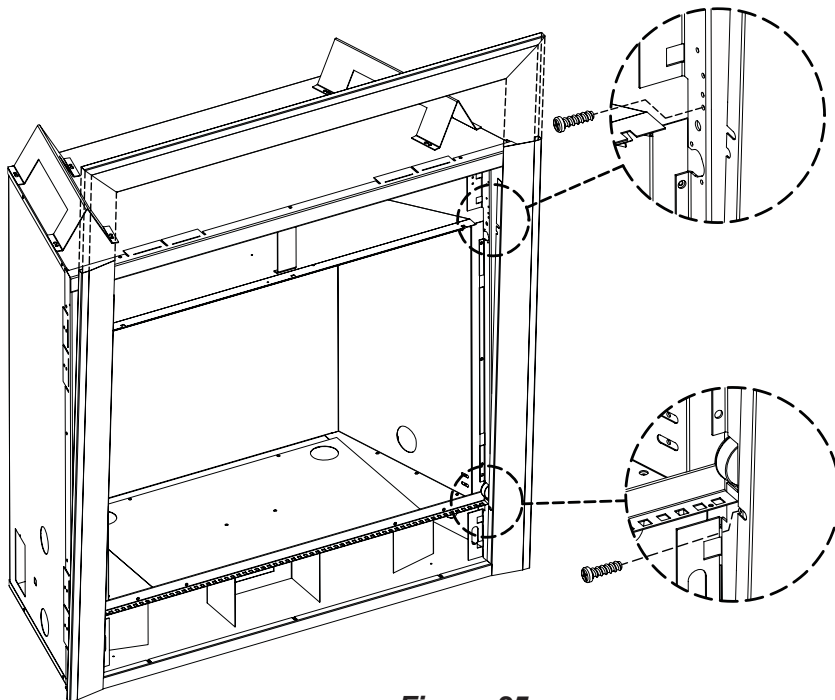

Figure 35
4. Loosely install four supplied screws into left and right sides of unit face. Leave approximately 1/8th in. of screw shaft protruding from unit in each location. *See Figure 35.*